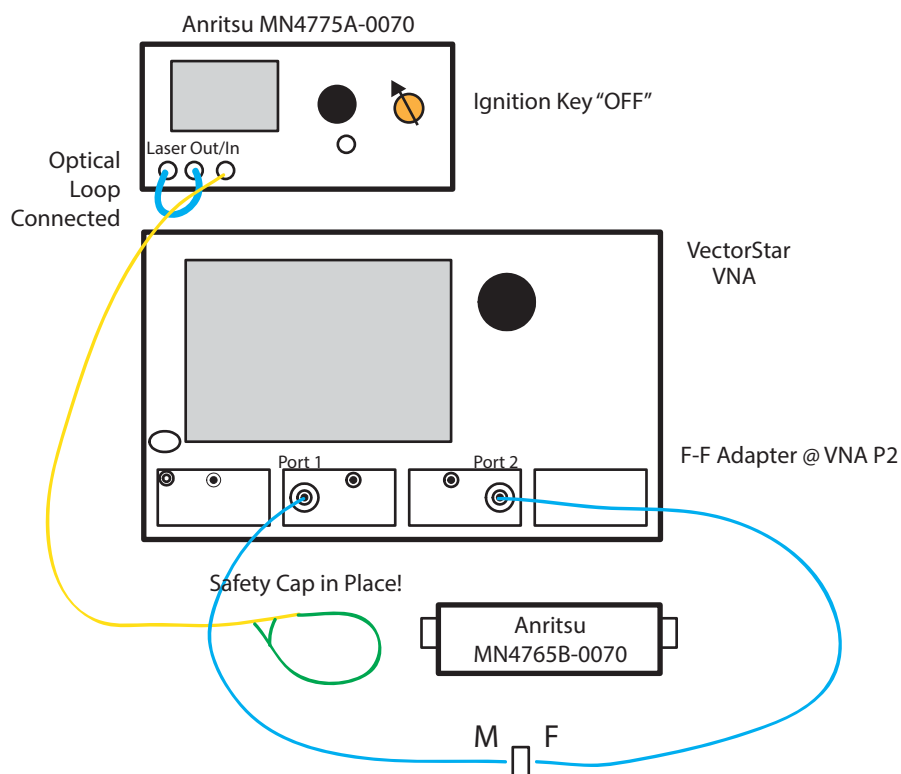

Figure 3-36. Initial ME7848A-0270 1550 nm Initial System Setup
1. Configure components (VNA, O/E, E/O, RF and Optical cables) as shown in Figure 3-36.
- b. Keep **Ignition-Key** in **OFF** Position as shown in Figure 3-36.
6. Make initial VNA RF Connections shown in Figure 3-36.
7. Make Optical connection to MN4775A-0070 as shown in Figure 3-36.